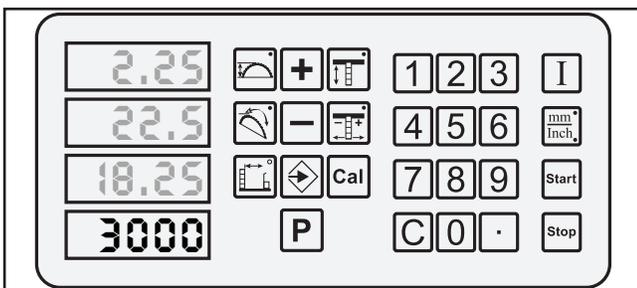

Figure 21. Recalled dimensions flashing.
4. Press and hold the input confirmation $[I]$ key until the dimensions start flashing, as shown in **Figure 21**.